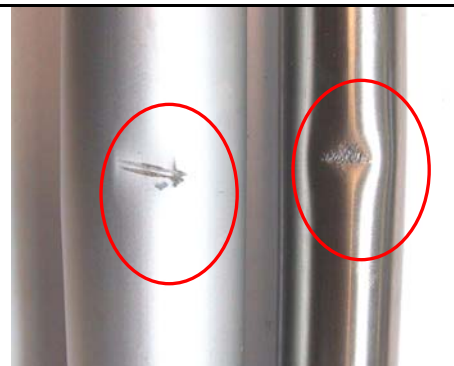

FIGURE 8
11. Inspect the LIFT ACTUATOR Piston Rod Eye, Bushing and Case Back Fixture for wear. (See Notes A & B below and LIFTEM Figure 8, Page 49.)	(None observed)
12. Inspect the inner and outer tubes of the LIFT ACTUATOR for deep scratches or dents. (See Notes A & B below and LIFTEM Figure 8, Page 49.)	(None observed)